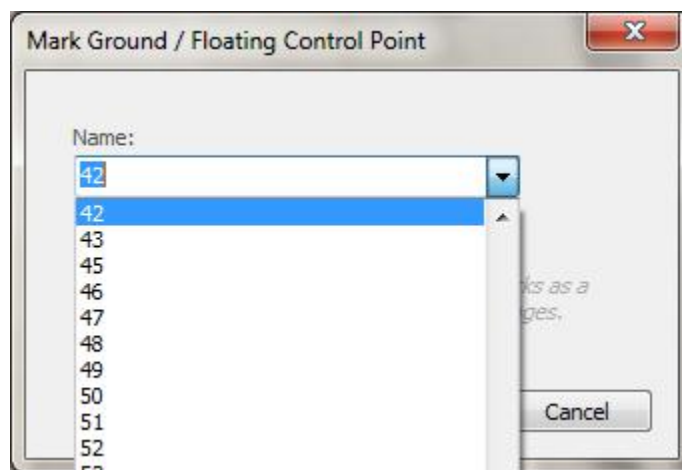

Figure 53: Marking Control Points
5. Click on the arrow in the “Name” dropdown box (Figure 53) and select the relevant control point based on its name and the field sketch (or image) detailing the control points measured in the field.